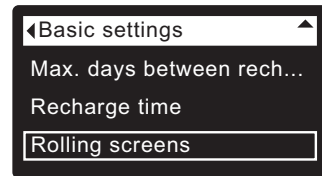

FIG. 53
3. Press the SELECT (O) button to display the Basic settings menu (See Figure 53).
7. To un-select a screen, make sure its name is highlighted in a box. Then press the SELECT (O) button. The black square will disappear. Pressing SELECT (O) again makes the black square reappear and re-selects the highlighted item. At least one screen must be selected/highlighted.
8. When selections are complete, exit this menu by pressing the LEFT (◀) button. The display will go back to the Basic settings menu (Figure 53).